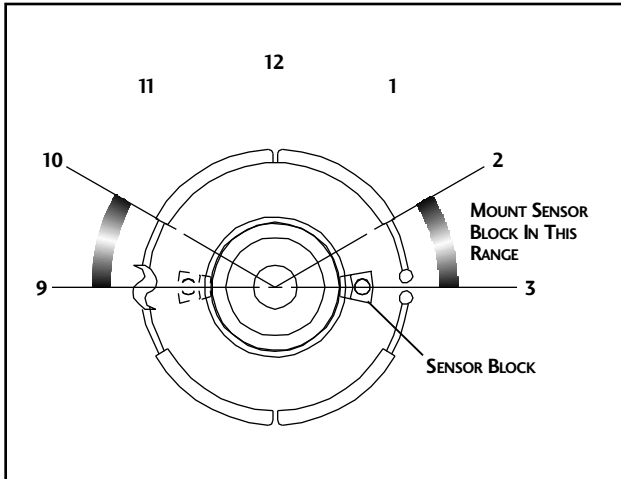
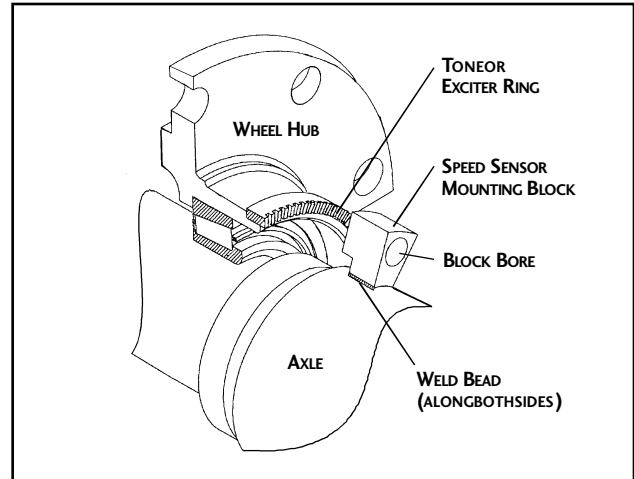

FIG. 5
FIG. 6
2. With the hub in place, locate the sensor mounting block at the 9 or 3 o'clock position on the axle spindle to lessen the effect from axle flexure due to loading. See Figure 5. Manually hold the sensor block in place and scribe its location on the axle spindle. See Fig. 6 & 8.
6. Weld the sensor block to the spindle axle. Weld along both sides of the block. See Fig. 6.